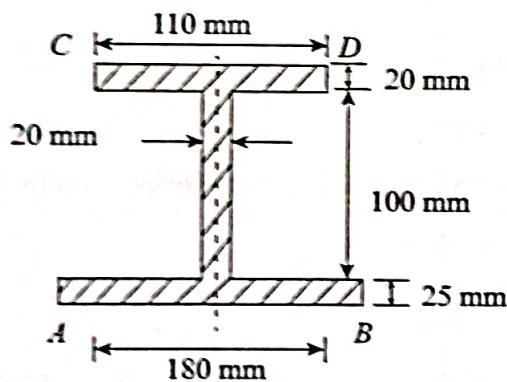

Figure 9.5
**EXAMPLE 9.5:** The beam cross section shown in Fig. 9.5 is subjected to a bending moment of 12 kNm. Calculate the maximum stress and its nature indicating its place.